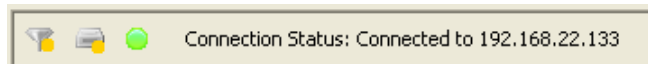
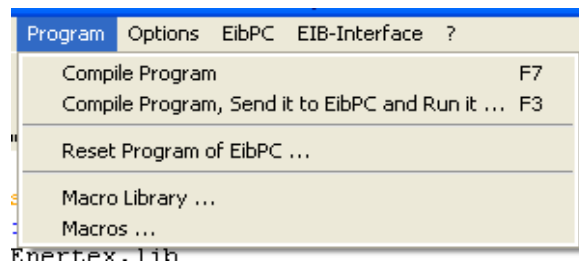

Figure 13: Connection status
Figure 21: Compiling user program, send to EibPC and start
A user program must be compiled, transferred to the Enertex® EibPC and started. As depicted in Figure 21, you can separately perform these steps in the menu PROGRAM, press the Ctrl+Shift+B shortcut or the button . The program will be transferred and started. The status display (see Figure 13) of the transfer process is shown. Dependent on the program size, the transfer and running and start of the user program takes 1 to 5 seconds.
1. Select the item "Reset program of EibPC ..." in the menu PROGRAM (see Figure 21).